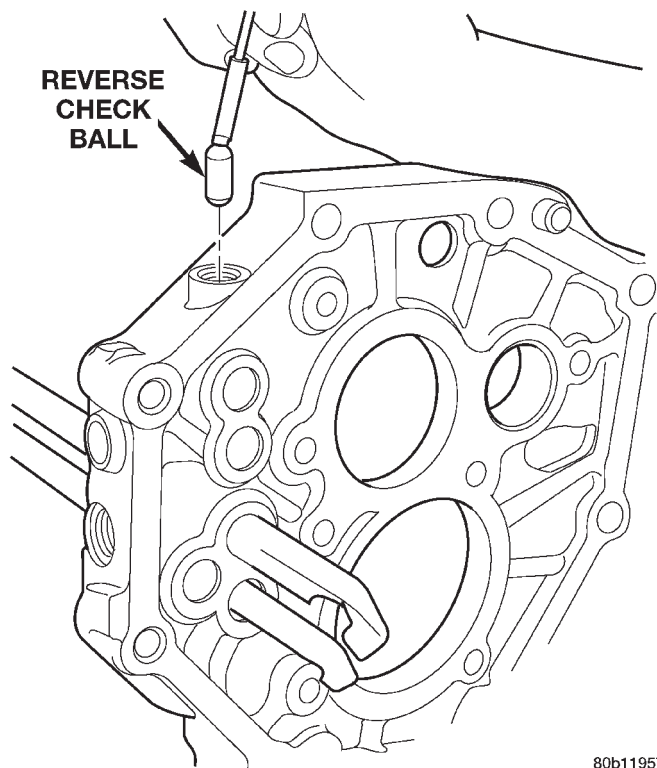

Fig. 78 Install Reverse Check Ball
- (5) Install snap-ring onto 3-4 shift rail.
(6) Install the reverse check ball into the intermediate plate (Fig. 78).